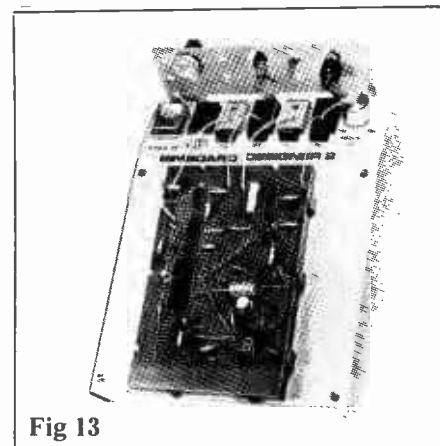

Fig 13
**The Bimboard Designer** in Fig. 13 consists of one, two or three Bimboards mounted on a console which contains a triple-rail d.c. power supply, comprising a dual tracking 100mA supply which can be varied from  $\pm 5$  to  $\pm 15$ V, and a fixed 5V output rated at 1A. All of the supplies, which are isolated from earth and from each other, offer short circuit protection. Power supply terminals on the top of the console accept either 4mm plugs or stripped wire.